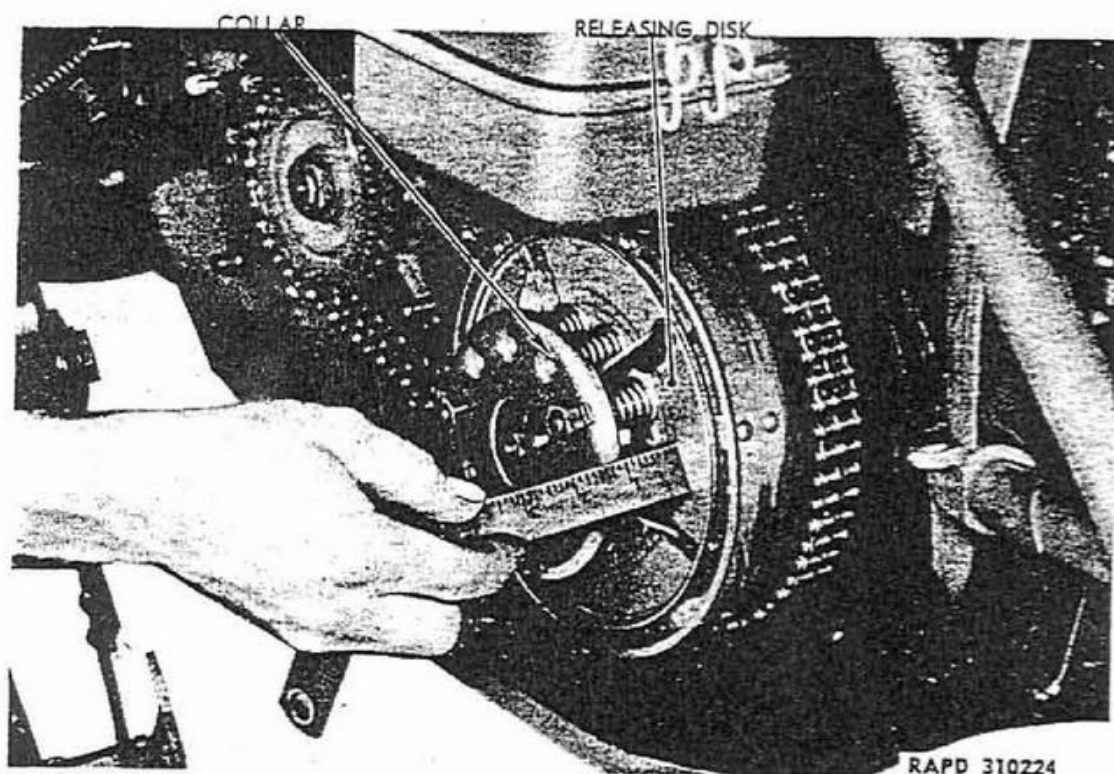

Figure 27—Measuring Distance Between Spring Collar and Disk
(4) After clutch spring tension adjustment is made, bend up nut lock lips to secure adjusting nuts. Replace any broken or badly damaged locks.
(5) When a new clutch is originally assembled and adjusted, the distance from the inner edge of shoulder on spring collar to face of outer (releasing) disk is $1\frac{3}{32}$ inches (fig. 27). In any case, do not tighten the three adjusting nuts to the point where inner edge of shoulder of spring collar is closer than $\frac{7}{8}$ inch to face of outer (releasing) disk. If compressed more, clutch probably cannot be fully disengaged.
(4) Engage remaining steel disk with shell splines with "OUT" side facing outward.
(5) Install "sprung" (one side lined) steel disk, lined side inward, on clutch hub studs.
(6) It will be noted that the three long, threaded-end, clutch hub studs are not spaced an equal distance apart. It will also be noted that the three holes (keyhole shaped) in the spring collar are not spaced equidistantly. Therefore, when installing releasing disk and spring assembly on clutch hub studs, the three threaded studs and holes in spring collar must be alined. Install assembly on studs, replace the three nut locks, replace the three adjusting nuts, and tighten all three evenly until the distance between shoulder of spring collar and face of releasing disk is $1\frac{1}{32}$ inch (fig. 27).
(7) Remove the large washer and replace push rod adjusting screw lock nut. Do not attempt adjustment of clutch release lever and push rod adjusting screw until outer front chain guard and foot-board have been installed.